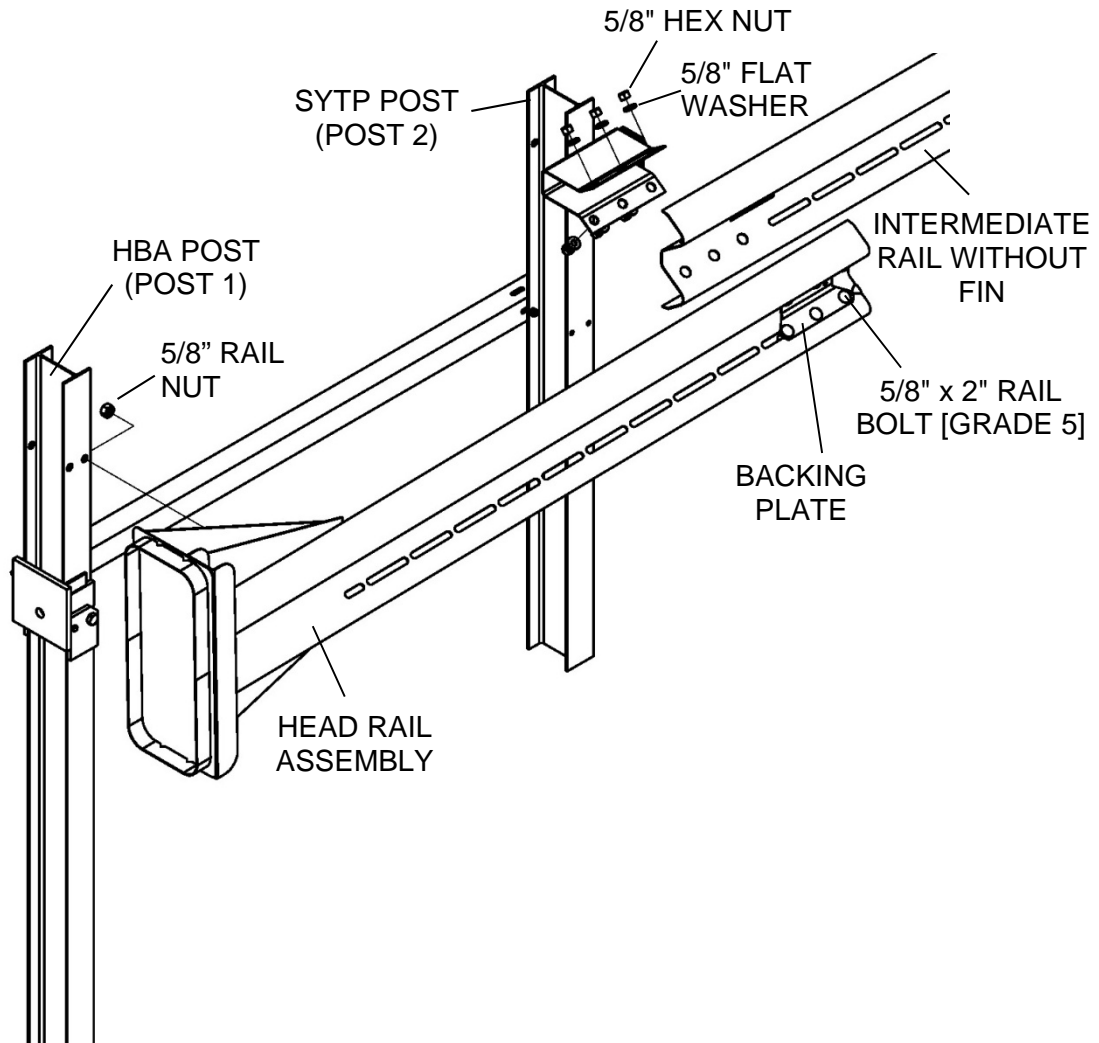

Figure 13 - Head Rail Attachment
Note: Post 1 does NOT receive a Spacer (See Figure 13 on Page 25).
- 6.1 Position the Head Rail Assembly onto the posts; attach using (6) 5/8" x 2" rail bolts [grade 5], (6) 5/8" flat washers [thick], (6) 5/8" hex nuts [grade 5] and (1) Backing Plate. Attach the Head Rail Assembly to Post 1 using (1) 5/8" x 2" hex bolt and (1) 5/8" rail nut (See Figure 13).